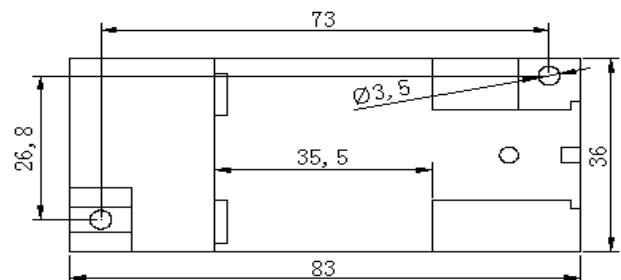

Figure 4, BS3 style installation dimension
- ①M3 screw hole in the fixed plate according to the screw hole position shown in Figure 4;
- ②Use the M3 screw to insert into hole and fix it.
8.1 According to the transducer terminal definition to connect the circuit according to the figure 4: